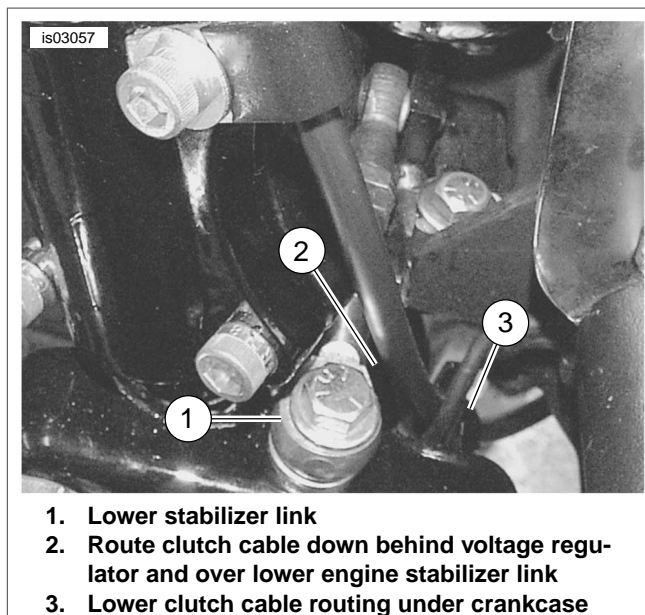

Figure 2. Revised Lower Clutch Cable Routing
4. See Figures 2 and 3. Continue to route cable down behind regulator, over engine stabilizer link and diagonally under crankcase to clutch release cover on right side of transmission.